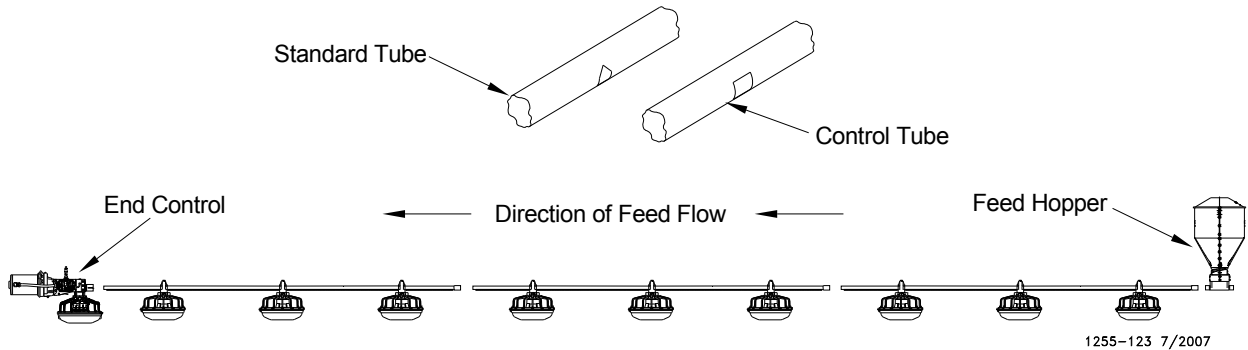

Figure 26. Hanger Installation
1. The auger tubes and feeders may be laid out end to end in approximately the final location of the line. **The belled end of each tube should be toward the Hopper end of the line.** See **Figure 26.**